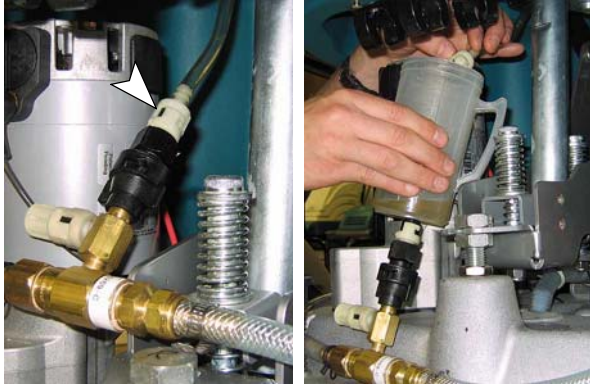

FIG. 87
2. Disconnect the opposite end of the supply hose from the injector assembly and drain the supply hose (Figure 87). To access the injector assembly remove the front shroud.